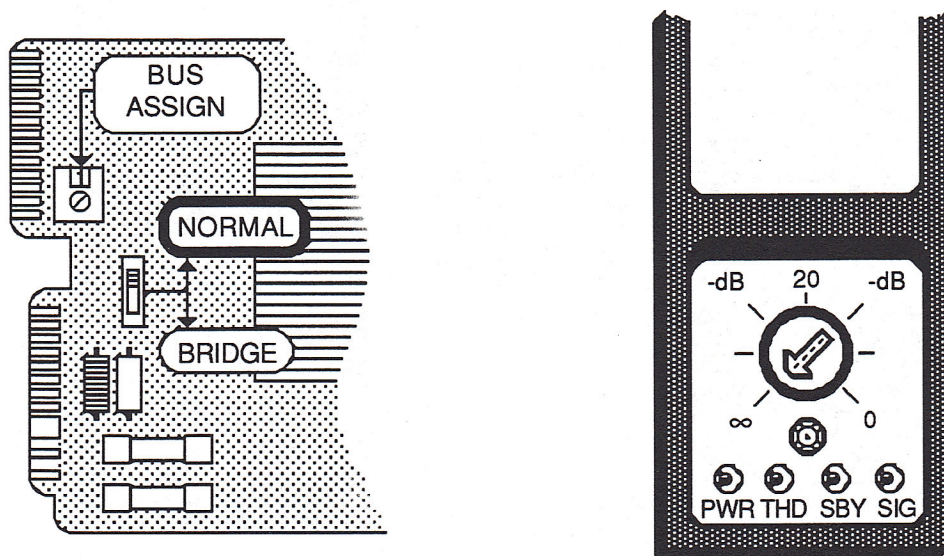

Figure 3
1. Set the input Bus Assign Switch to the predetermined bus, as show in Figure 3 below: